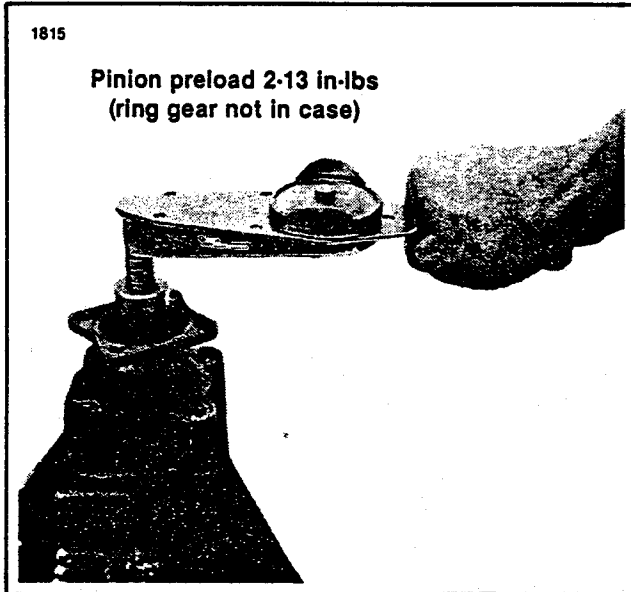

Figure 3-26. Checking Pinion Preload
- Pinion preload is checked with in-lbs torque wrench. Turning torque of pinion shaft should be between 2-13 in-lbs. Pinion shaft must be vertical for this check. Torque reading to start shaft turning should be disregarded (Figure 3-26). If torque reading is high, add shims to increase shim pack (24) thickness. If torque reading is low, remove shims to decrease shim pack (24) thickness. Preload shims are available in the following thicknesses: .003 in. (.076 mm), .005 in. (.13 mm), .010 in. (.25 mm), and .030 in. (.76 mm). When turning torque is correct, install cotter pin (37).